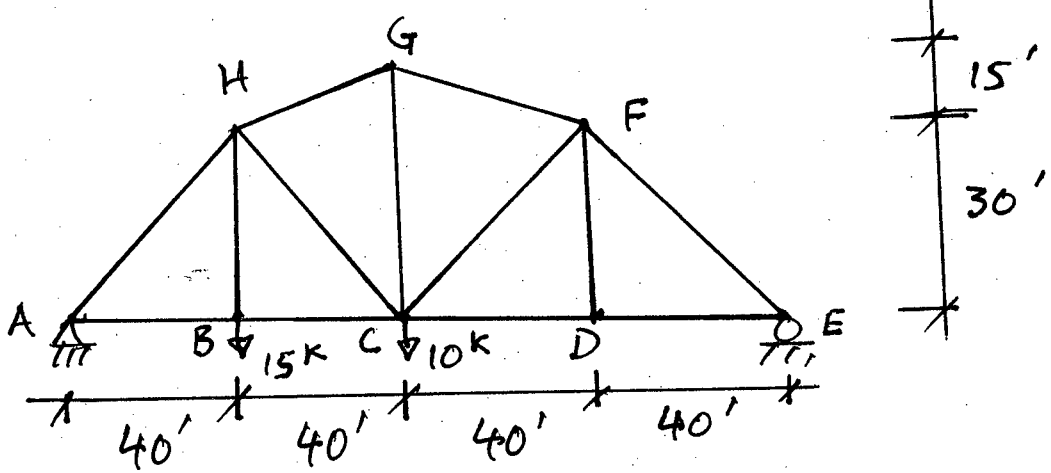

Figure 1
1. (a) Define simple, complex and compound truss with examples. (9)
(b) Determine the forces in members GF, FC and CD of the bridge truss shown in Figure 1. State if the members are in tension or compression. Assume all members are pin connected. (21)
1. (a) What are the advantages of reinforced concrete? (7)
- (b) Why are temperature and shrinkage reinforcements required in one-way slab? What are the recommended ratios for such steel? (11)
- (c) What is the minimum length of lap for column splices as per ACI/BNBC code? (7)
- (d) Calculate the development length of 20 mm and 25 mm uncoated top bars in USD, Repeat the calculation for bottom bars also. Use $f'_c = 3$ ksi; and $f_y = 60$ ksi. and assume appropriate value for any missing data. (10)
2. (a) Show with a sketch the crack pattern of a beam under two point loading. (4)
- (b) How does web reinforcement augment shear resistance after development of diagonal cracks? (8)
- (c) A beam supported on two other beams, as shown in Fig. 1, is 16" wide and have an effective depth of 22 in. The beam carries a total factored load of 8 kips/ft on a 20 ft clear span. It is reinforced with 7.62 in². of tensile steel. Using vertical U stirrups with $f_{yt} = 60000$ psi, design the web reinforcement for the beam. $f'_c = 4000$ ksi. (23)
3. (a) Explain primary torsion and secondary torsion with examples. (8)
- (b) What is cracking torque? Give an estimate of cracking torque of a rectangular section. (14)
- (c) Derive an expression for longitudinal reinforcement required to take beam torsion. (13)